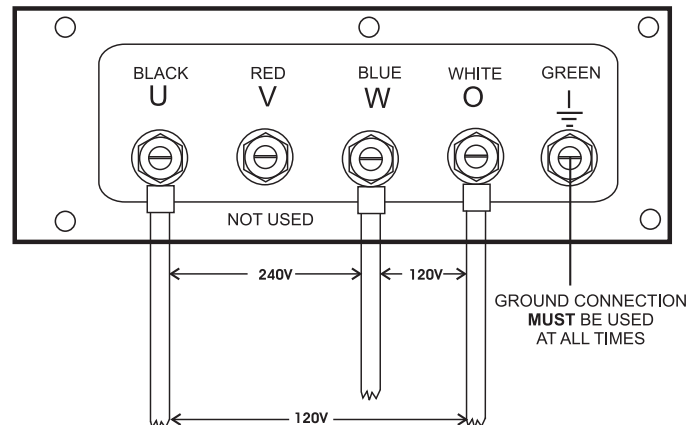

Figure 29. Output Terminal Lugs 1Ø-240V/120V Connections
2. Connect the load wires to the **Output Terminal Lugs** as shown in Figure 29.